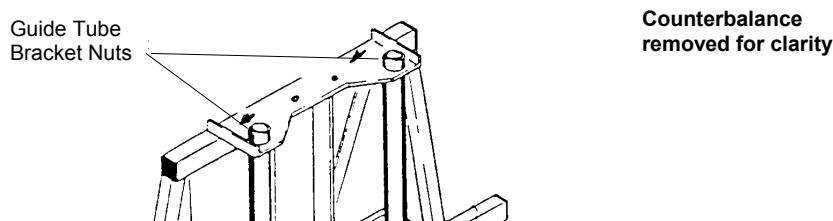

Figure 34: Aligning the Guide Tubes
1. Loosen the guide bracket nuts (Figure 34), but **do not remove** the bracket. Using a deadblow mallet, strike the bracket on the side and in the direction you wish the guides to go. **Do not strike the guides.**